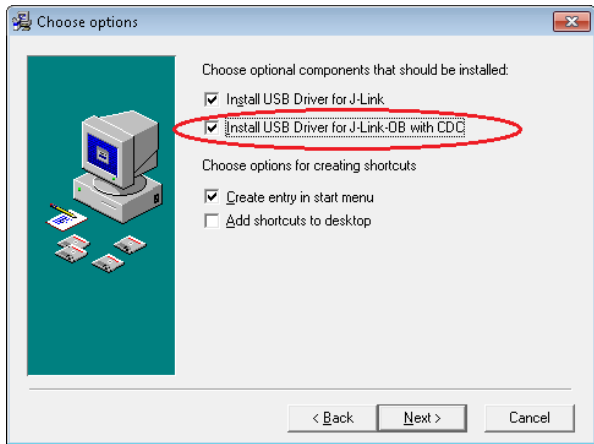

Figure 3. Segger Driver Install Options
2. Follow the on-screen instructions to complete the installation. Ensure that the **Install USB Driver for J-Link-OB with CDC** option is checked as shown in Figure 3.